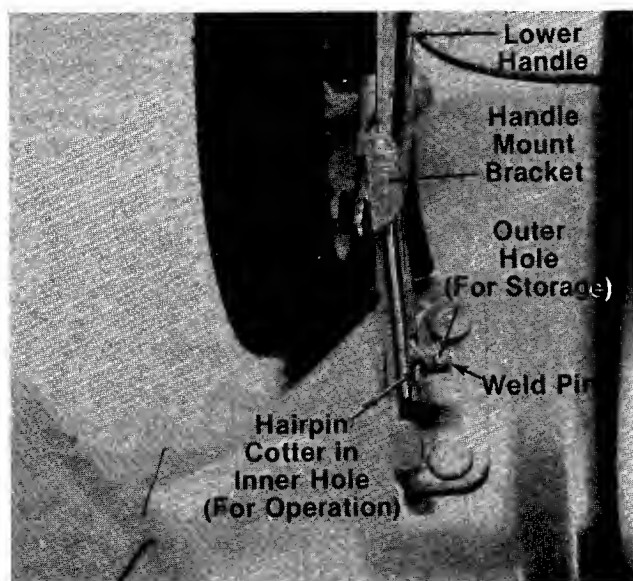

FIGURE 2.
2. Fasten lower handle in position over weld pins in handle mount brackets on deck. Secure with hairpin cotters (C) in inner hole on weld pin. See figure 2.